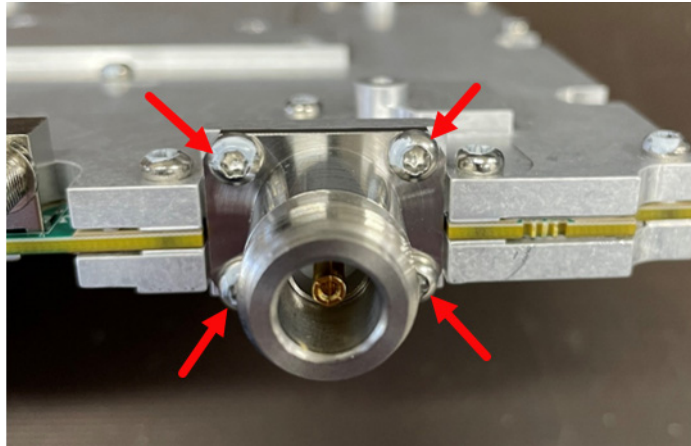

Figure 3-19. RF Input Adapter Removal
1. Using T10 Torx screw driver remove the four screws to carefully pull the RF input adapter straight off the SPA PCB assembly. See Figure 3-19.